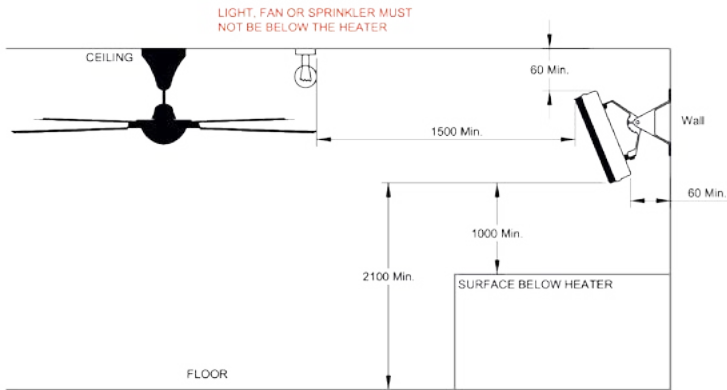

Fig. 2
3. According to Figs. 2, 3, 4, select the heater installation place on the ceiling or ceiling structural elements with observation of minimum distances from objects and minimum distance from the floor.